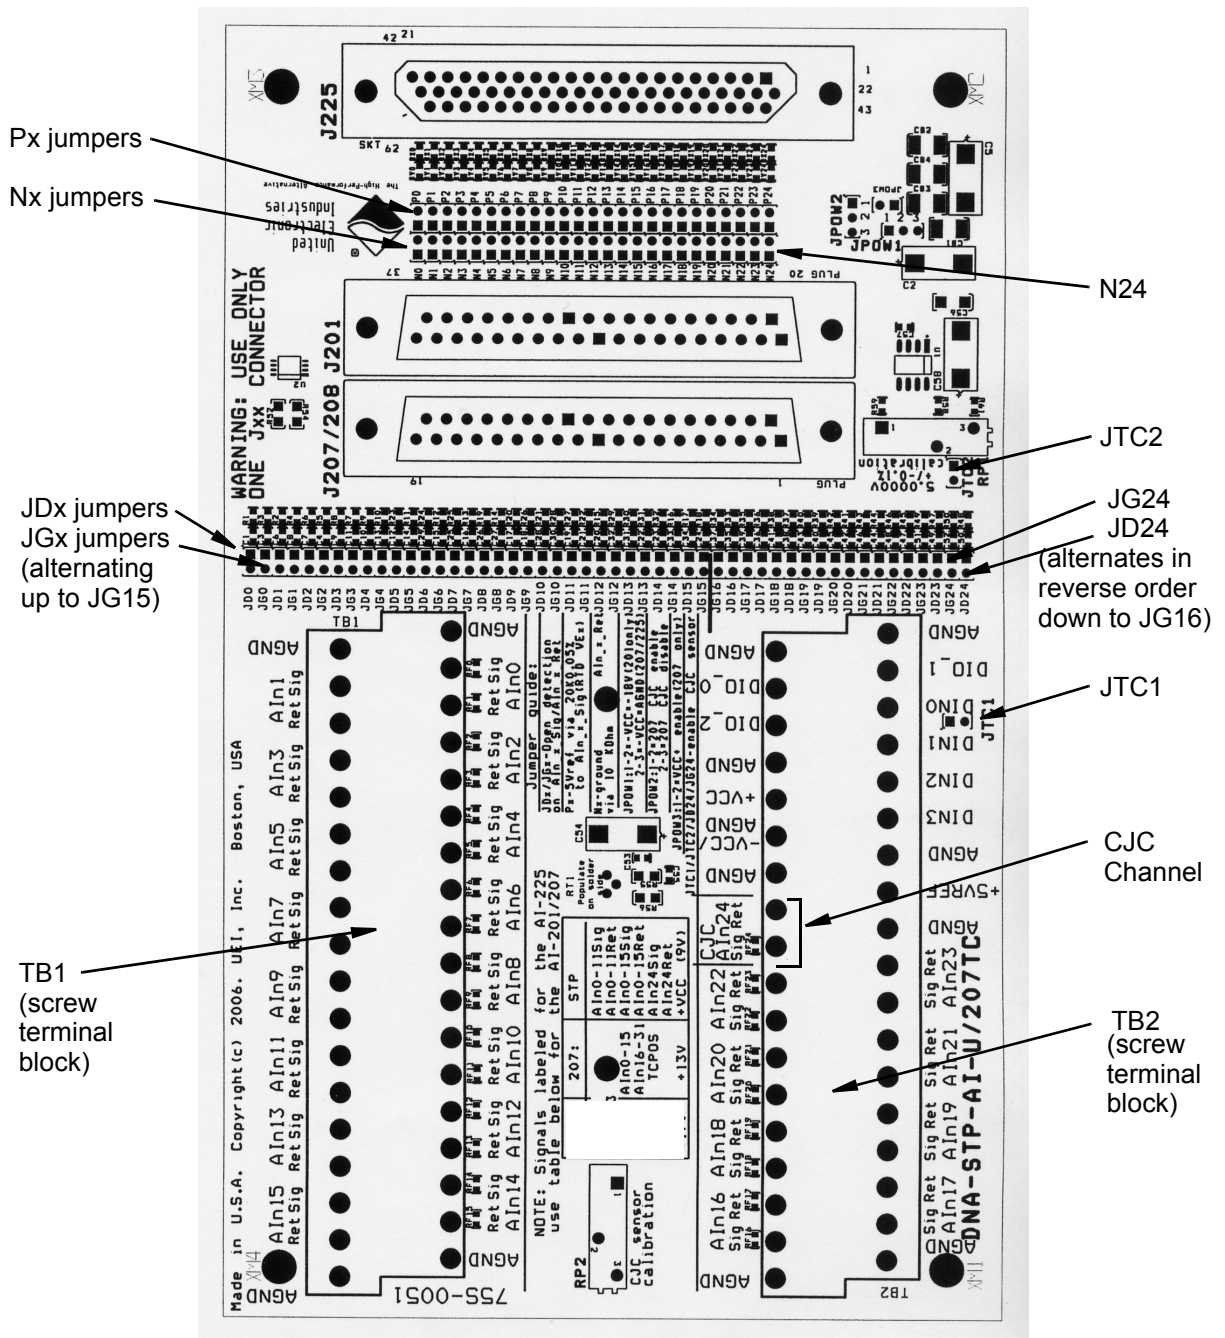

Figure 2-2 Location of Jumpers and Terminals on STP Panel
STEP 1: Connect each thermocouple signal line to the corresponding AINx Sig terminal on TB1 or TB2. Connect each thermocouple return line to the corresponding AINx Ret terminal on TB1 or TB2. Refer to **Figure 2-2** for location of TB1, TB2, and screw terminals.
STEP 2: To enable open thermocouple detection and low pass filter to ground, insert a jumper on JDx, where x is the channel number for that thermocouple. This action connects the signal line of the x channel to the open thermocouple detector circuit and a filter to ground. The location of JDx jumper terminals is noted in **Figure 2-2**.
NOTE: For every thermocouple return line, you should also enable a return to ground through a filter (jumper JGx), through a 10k resistor (Jumper Nx), or both. It is sufficient, however, to insert just the Nx jumper because of the wide difference in resistor values. Inserting both Nx and JGx jumpers is not necessary, but inserting both will not cause an error. The location of all jumper terminals is shown in **Figure 2-2**. (Refer to Table 2-2 on page 12 for a summary of all jumper settings.)
STEP 1: Install jumpers on JTC1 and JTC2, as indicated in **Figure 2-2**.
STEP 2: Install jumpers on JD24, N24, and JG24, as indicated in **Figure 2-2**.
Refer to Figure 2-2 for location on board.
Figure 2-2 shows the locations of jumpers and terminals on the STP board.
- 2.4.1 Enabling Filters** To enable return to ground through a 10 megohm resistor/low pass filter circuit, insert jumpers in JGx for each selected channel, where x is the channel number. The location of JGx jumper terminals is noted in **Figure 2-2**.
- 2.4.2 Enabling Return to Ground Through Resistor** To enable a ground return through a 10 kohm resistor on each voltage input, insert a jumper on Nx, where x is the channel number. This action connects the return line of the x channel input to ground through a 10kOhm resistor. The location of Nx jumper terminals is noted in **Figure 2-2**.
- STEP 1:** For every RTD input to which you want to connect internal +5V excitation, insert a jumper in Px, where x is the channel number of the signal line of the RTD input. The location of Px jumper terminals is noted in **Figure 2-2**.